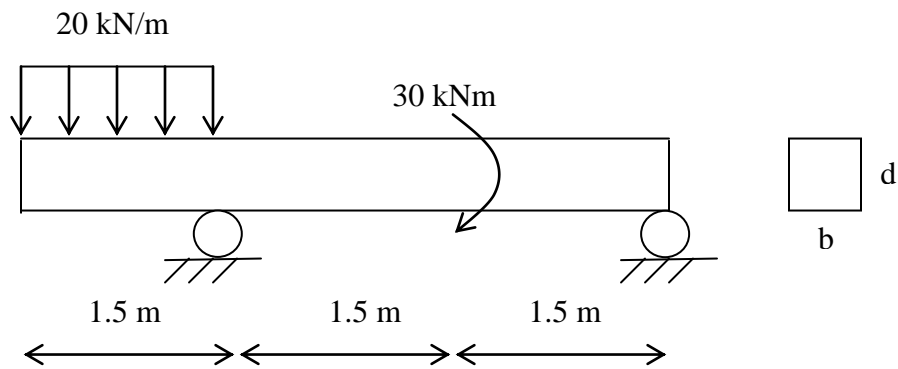

Figure 3
3. A beam is loaded as shown in Figure 3, the specifications of the beam are as follow: